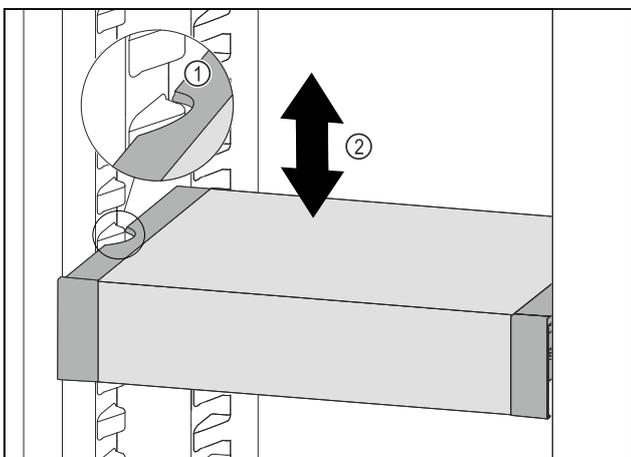

Fig. 93
- ▶ Move VarioSafe up or down in the refrigerator compartment until the desired height is reached. *Fig. 93 (2)*
- ▶ Pull VarioSafe forwards until the recesses in the side of the VarioSafe are at the level of the support rib in the refrigerator compartment. *Fig. 93 (1)*